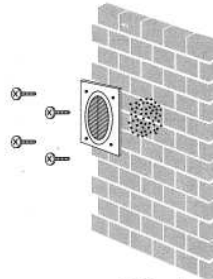

FIG. 4
8. Put the outlet cover to cover the holes tightly with 4 screws (see fig 4).